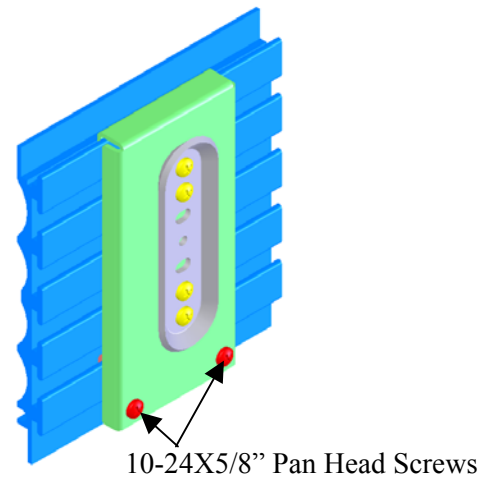

Figure 4
4. Secure the adapter bracket to the tool tile using two 10-24X5/8" pan head screws (see Figure 4) and tighten all screws.